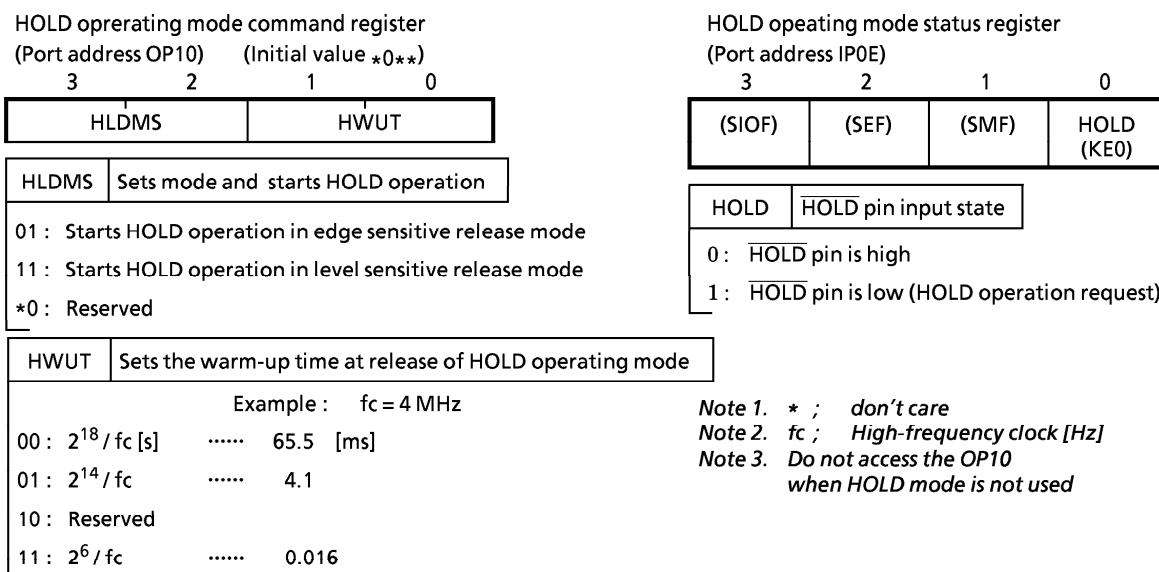

Figure 2-21. HOLD Operating Mode Command Register/Status Register
- ① The high-freq. oscillator starts.
- ② Warm-up is performed to acquire the time for stabilizing oscillation. During the warm-up, the internal operations are all stopped. One of three warm-up times can be selected by program depending on the characteristics of the oscillator used.
- ③ When the warm-up time has passed, an ordinary operation restarts from the instruction next to instruction which starts the HOLD operation. At this time, the interval timer starts from the reset state "0".
- ※ The warm-up time is obtained by dividing the basic clock by the interval timer, so that, if the frequency at clearing the HOLD operation is unstable, the warm-up time shown in Figure 2-21 includes an error. Therefore, the warm-up time must be handled as an approximate value.